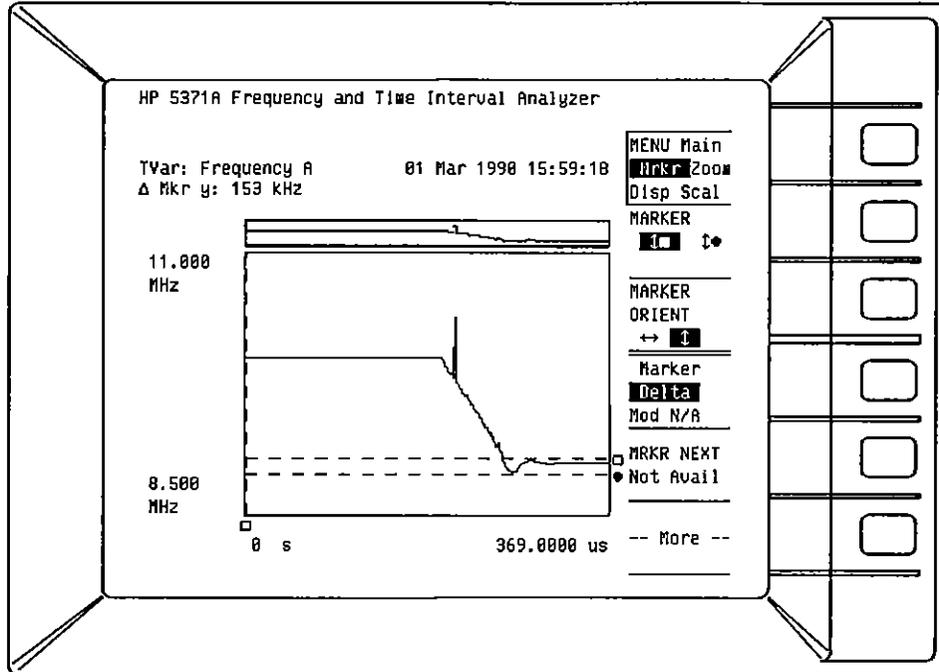

Figure 16-17. Time Variation Y-axis Delta
- Delta on the $\updownarrow \square \updownarrow \bullet$ markers is the y-axis difference in the position of the two markers (see *Figure 16-17*).